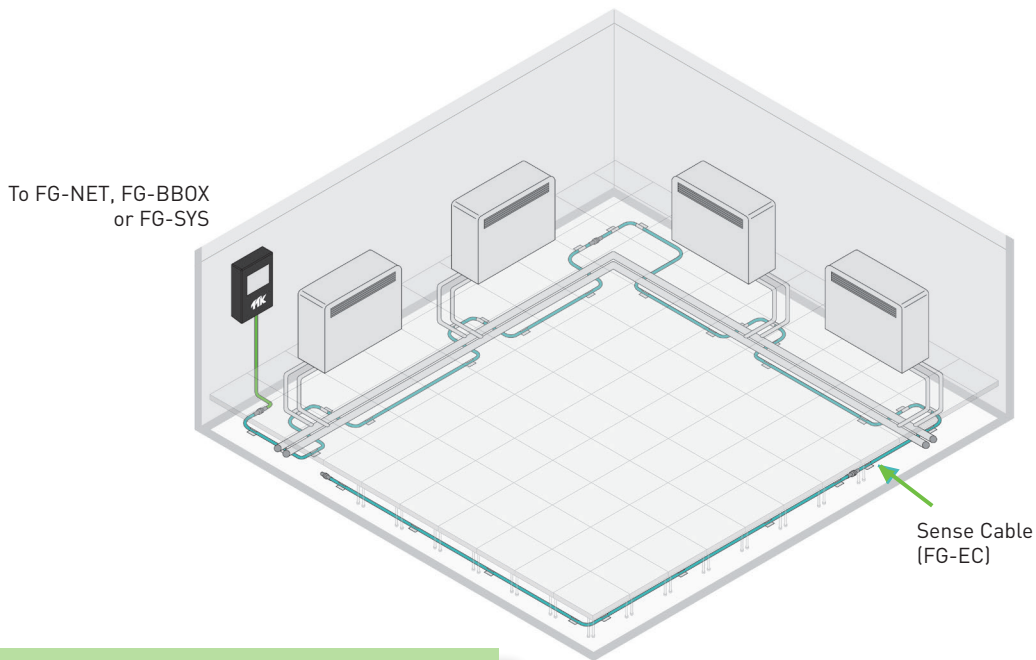

Figure 2.1
**Layout Explanation (Figure 2.1) :**